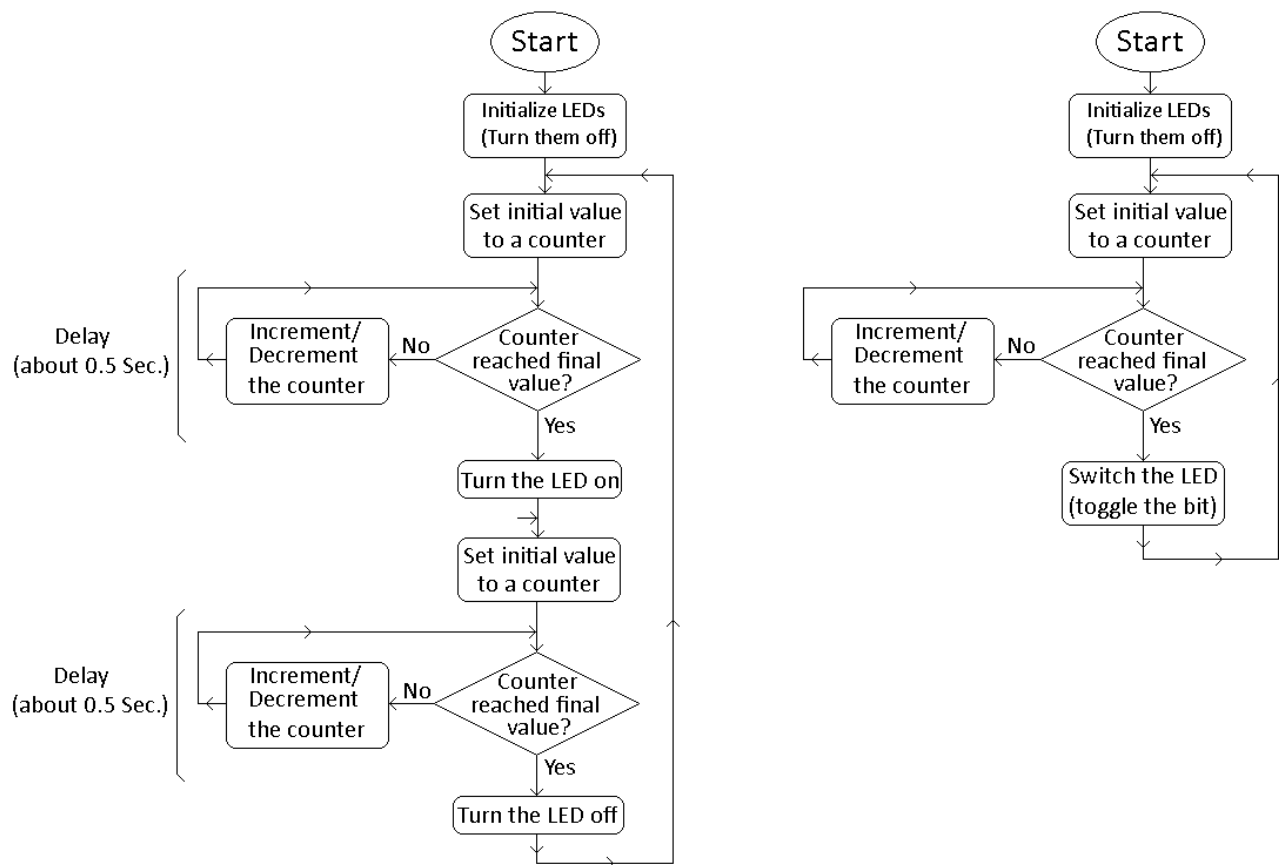

Figure 1.1 – Flowcharts for flashing LED
- Then implement the flashing LED code using an infinite loop which toggles bit 28 of the address 0x2009C020. Figure 1.1 shows the two different approaches. The shorter flowchart leads to smaller code size and the longer flowchart will cost you marks as the code is inefficient!